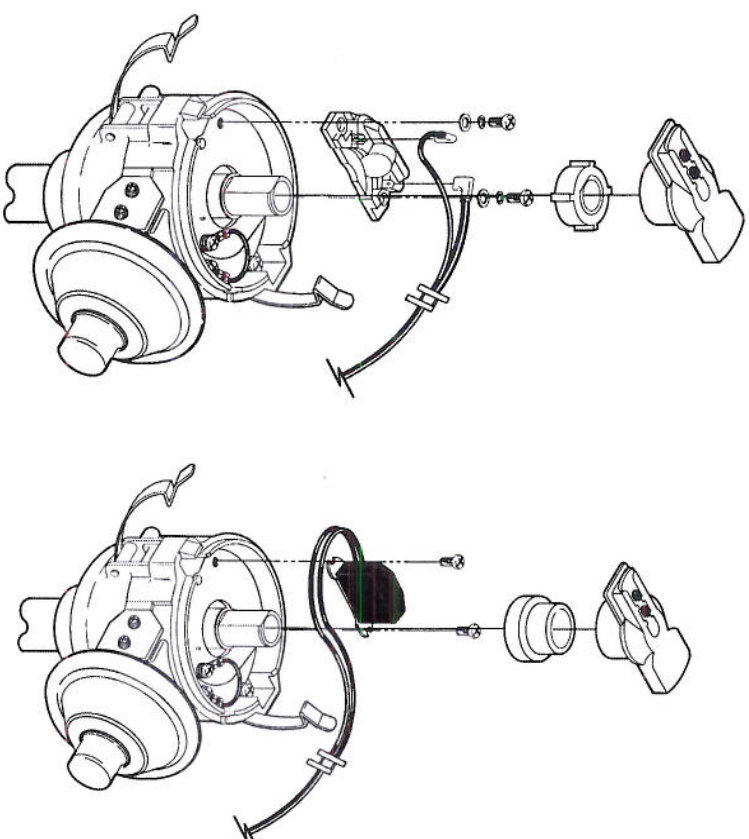

FIGURE 1
4. Attach the black Ignitor II wire to the negative coil terminal. Attach the red Ignitor II wire to the positive coil terminal. (See Figure 1)